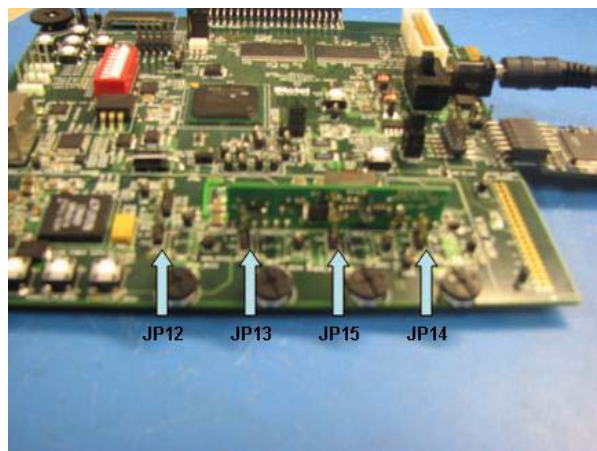

Figure C-23 · Remove Jumpers J12 – J15
- Remove jumpers JP12, JP13, JP14, and JP15 from the board, as shown in Figure C-23. Place the jumpers next to the board.